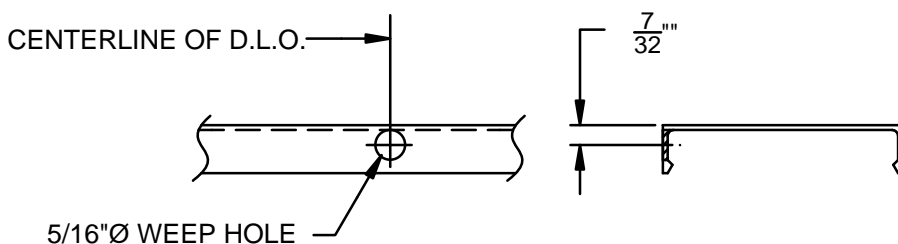

FIGURE 5
- 1.6 Drill 5/16" diameter weep holes at 1/4 points in the horizontal pressure plate. Drill (1) 5/16" diameter weep hole at the bottom of each horizontal face cover at centerline of D.L.O. SEE FIGURE 5 NOTE: For SSG applications, face covers typically run across mullions, so there will be multiple holes in each horizontal face cover.